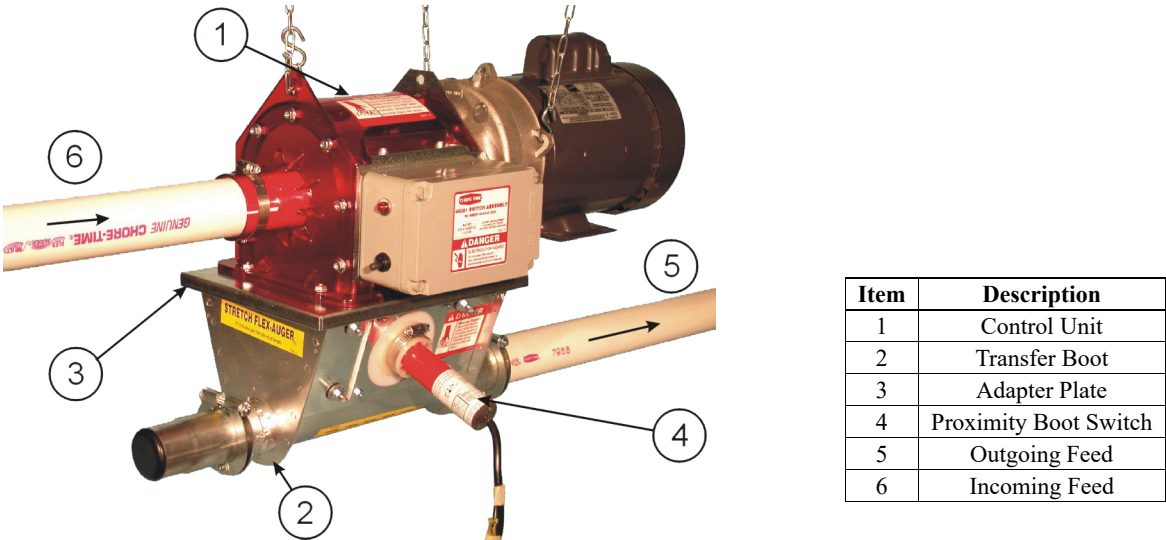

Figure 5. Control Unit/Extension Boot Installation--required for systems over the maximum length
7. For Flag lines over the maximum length, a Transfer Boot (w/switch), Adapter Plate, and Control Unit are required. Install as shown in **Figure 5.** near the center of the line.